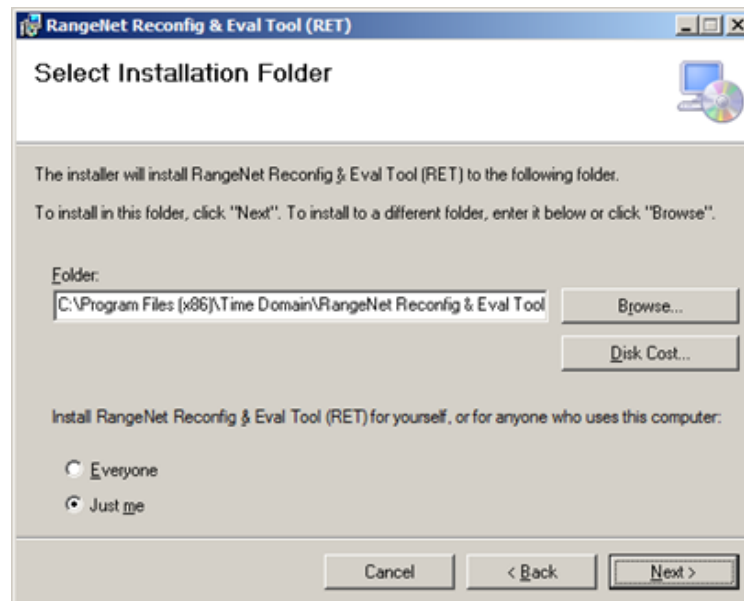

Fig. 2: Screen for designating Program Files location for RangeNet RET software
3. When you reach the screen shown in **Figure 2**, you will be given a choice of directories into which the RangeNet RET software can be loaded. We recommend that you accept the default.